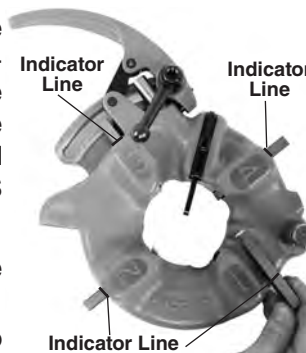

Figure 10 – Inserting Dies
5. Remove dies from the die head. Insert appropriate dies into the die head, numbered edge up until the indicator line is flush with the edge of the die head (see Figure 10). Numbers on the dies must correspond with those on the die head slots. Always change dies as sets – do not mix dies from different sets.